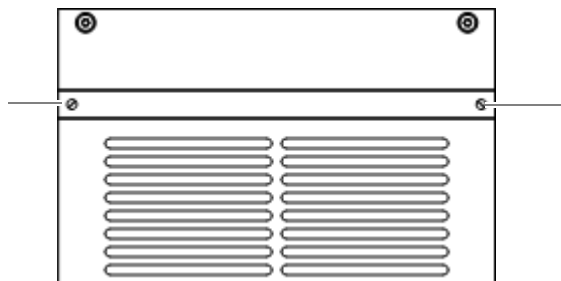

Figure 11.4 Air filter pad holder mounting screws
1. Turn the air filter pad holder mounting screws by 90° to loosen them, refer to Figure 11.4.